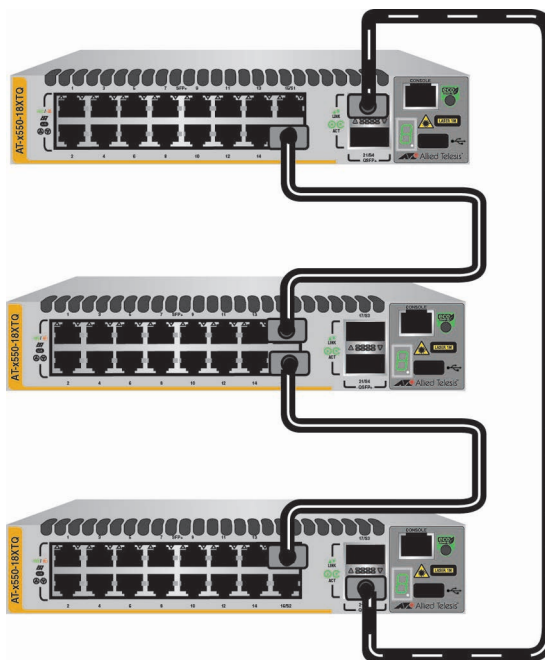

Figure 25. Invalid Stack Trunk with 10Gbps and 40Gbps Links
- ❑ Stack trunks cannot have both 10Gbps and 40Gbps links. An example is shown in Figure 25.